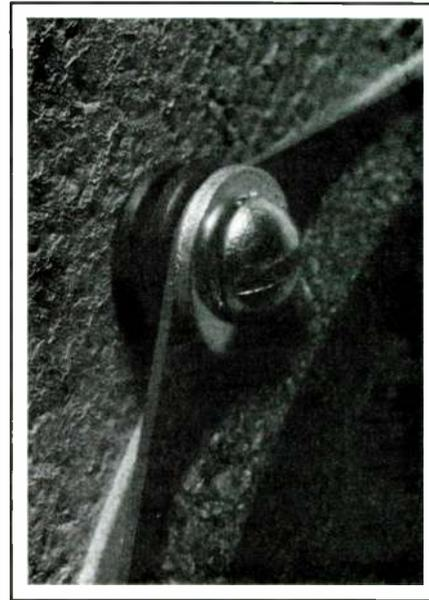
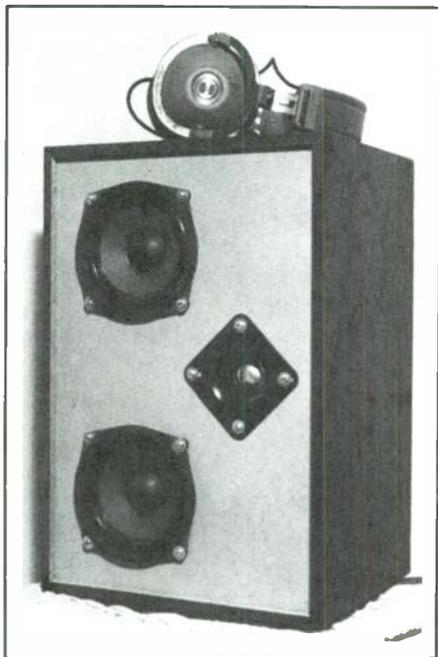

FIGURE 1: An Audax 5 $\frac{1}{2}$ " driver mounts more easily with a rubber grommet. Notice the wrinkle finish paint on the baffle board.
FIGURE 2: The rubber grommet mounts have worked reliably on several of Gold Sound's System One kits.
1. Rubber grommets made for running wires through chassis openings are handy for mounting Audax and other drivers on which the mounting tabs do not rest directly on the baffle surface (Fig. 1). The appropriate size grommet keeps the cabinet airtight when using T-nuts to mount the drivers. I built some Gold Sound System One kits, which utilized Audax 5 $\frac{1}{2}$ " units, over a year ago using the grommets as spacers and seals. The cabinets have remained airtight with no evidence of problems with vibration or the aging of the rubber (Fig. 2).